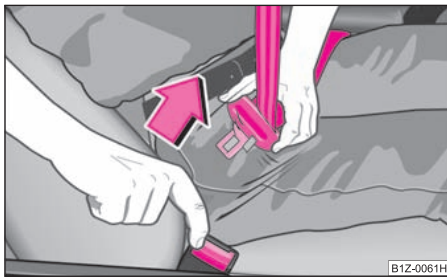

Fig. 119 Releasing lock tongue from belt lock
- Press the red button in the belt lock ⇒ fig. 119. The spring force causes the tongue of the lock to jump out.